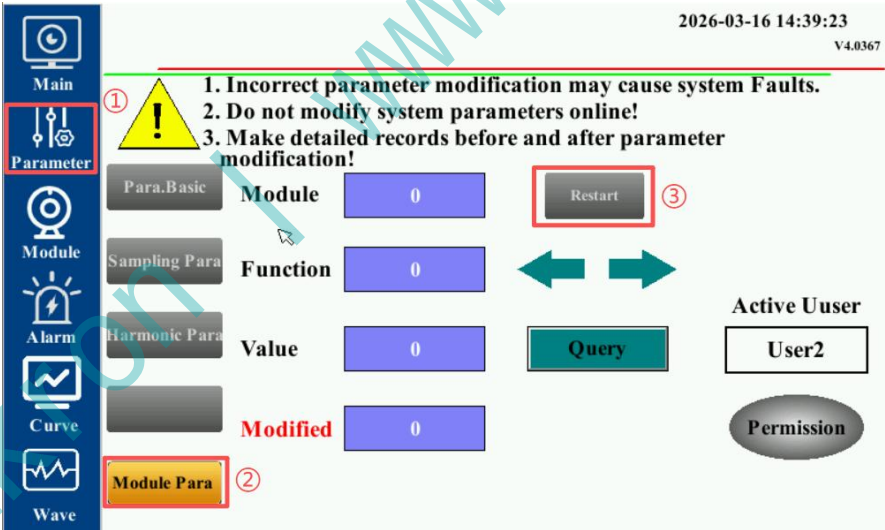

Figure 7.25: Touchscreen Restart Interface
2) If you have already entered the main interface, please locate and click "Parameters" in the title bar on the right side. After entering the password (Password: 123), locate and click "Debug Parameters" within the interface's title bar. In the displayed Debug Parameters interface, find the "Restart" button (as shown in Figure 7.25); please click "Restart" and repeat the previous operation of continuously pressing and holding the screen.